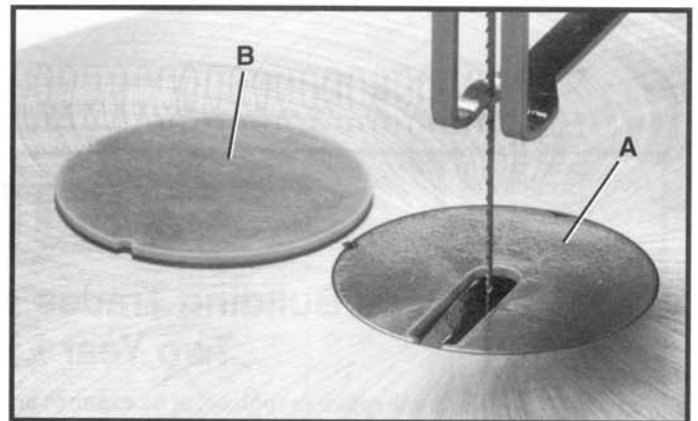

Fig. 50
A table insert blank (B) Fig. 50, is supplied as standard equipment with your scroll saw and can be used when cutting very small workpieces to give added support to the bottom of the workpiece. Simply cut a slot into the blank and replace the standard insert (A) with the blank (B). The slot cut into the blank (B) will only be as wide as the blade, giving maximum support to the bottom of the workpiece.